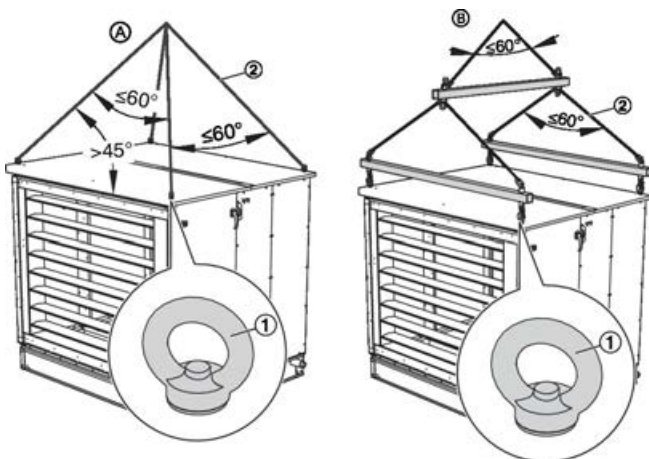

Fig. 7: Using eye nuts for moving units with a crane
- ▶ Hook the slings (Fig. 7 /2) into the eye nuts.